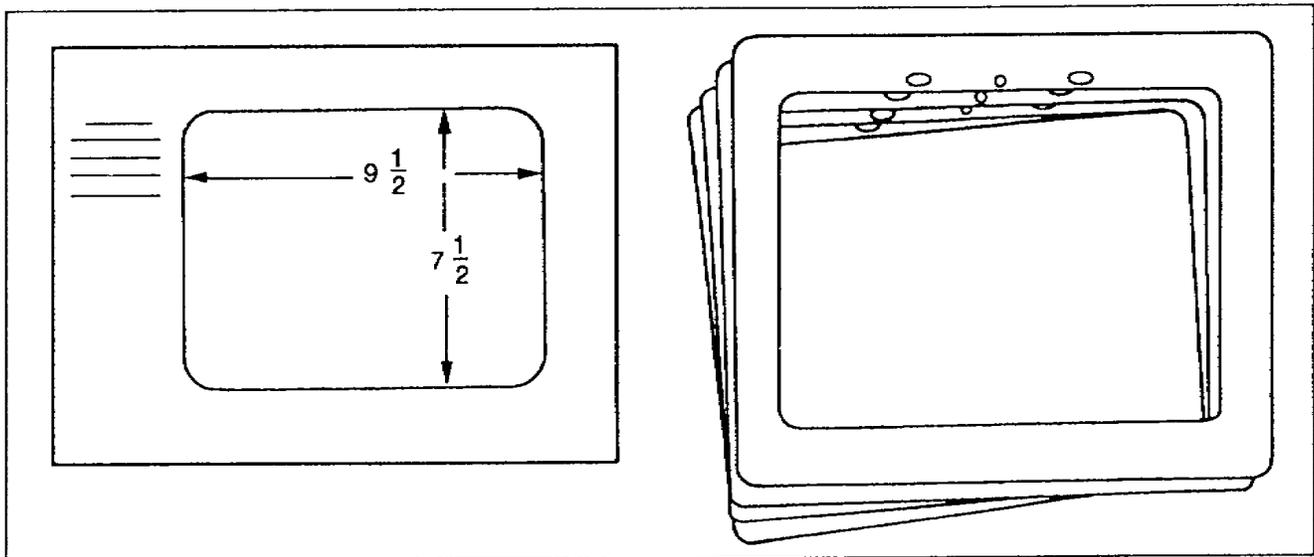

Figure 2-8. VGT mounting frames
a. Commercial Mounts. Commercial mounts are generally made of cardboard or plastic. They come in a variety of sizes. Make sure that you specify size when ordering commercial mounts. Figure 2-8 shows examples of commercial viewgraph mounts.